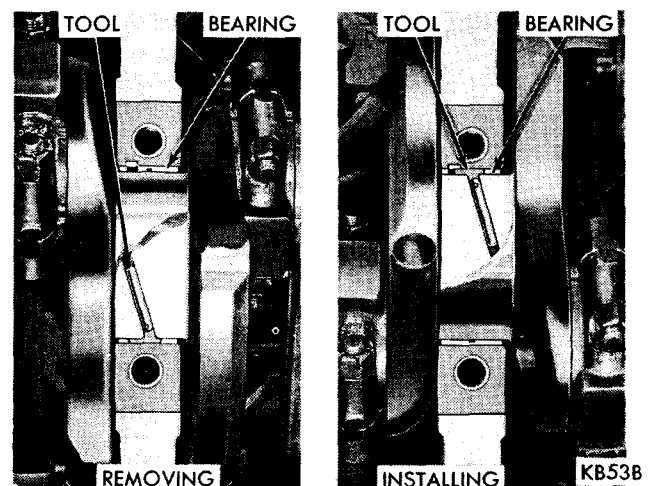

Fig. 40—Removing or Installing Upper Main Bearings
- (1) Remove oil pan.
- (2) Mark bearing caps before removal.
- (3) Remove bearing caps one at a time. Remove upper half of bearing by inserting Tool C-3059 (Fig. 40) into oil hole of crankshaft.
- (1) Start bearing in place, and insert Tool C-3059 into oil hole of crankshaft (Fig. 40).
- (2) Slowly rotate crankshaft counter-clockwise sliding the bearing into position. Remove Tool C-3059.